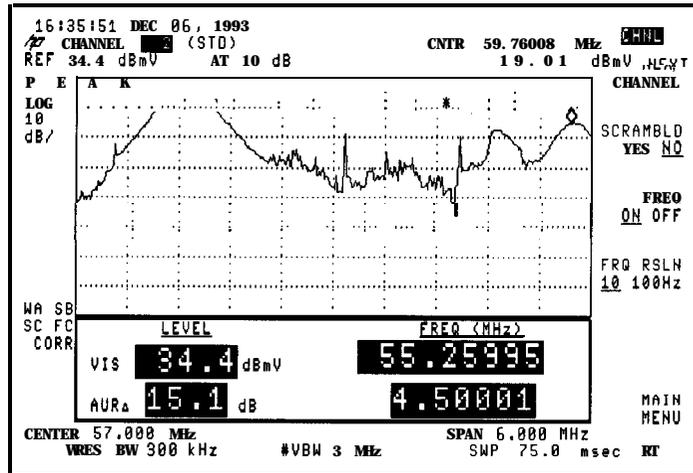

Figure 2-8. 10 Hz Resolution
3. Press **FRQ RSLN 10 100 Hz** to select between the readout resolution of 100 Hz or 10 Hz. 100 Hz is the default setting as 10 Hz significantly slows down the measurement. See Figure 2-8.